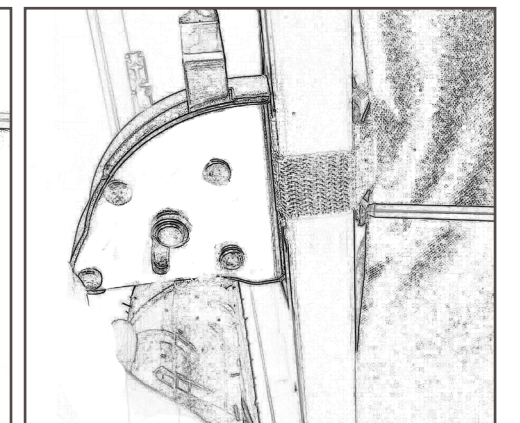

Figure 15
4. Place the Wheel Guard Assembly against the frame, and use the hex key wrench provided to tighten the screws until snug. (Fig. 15)